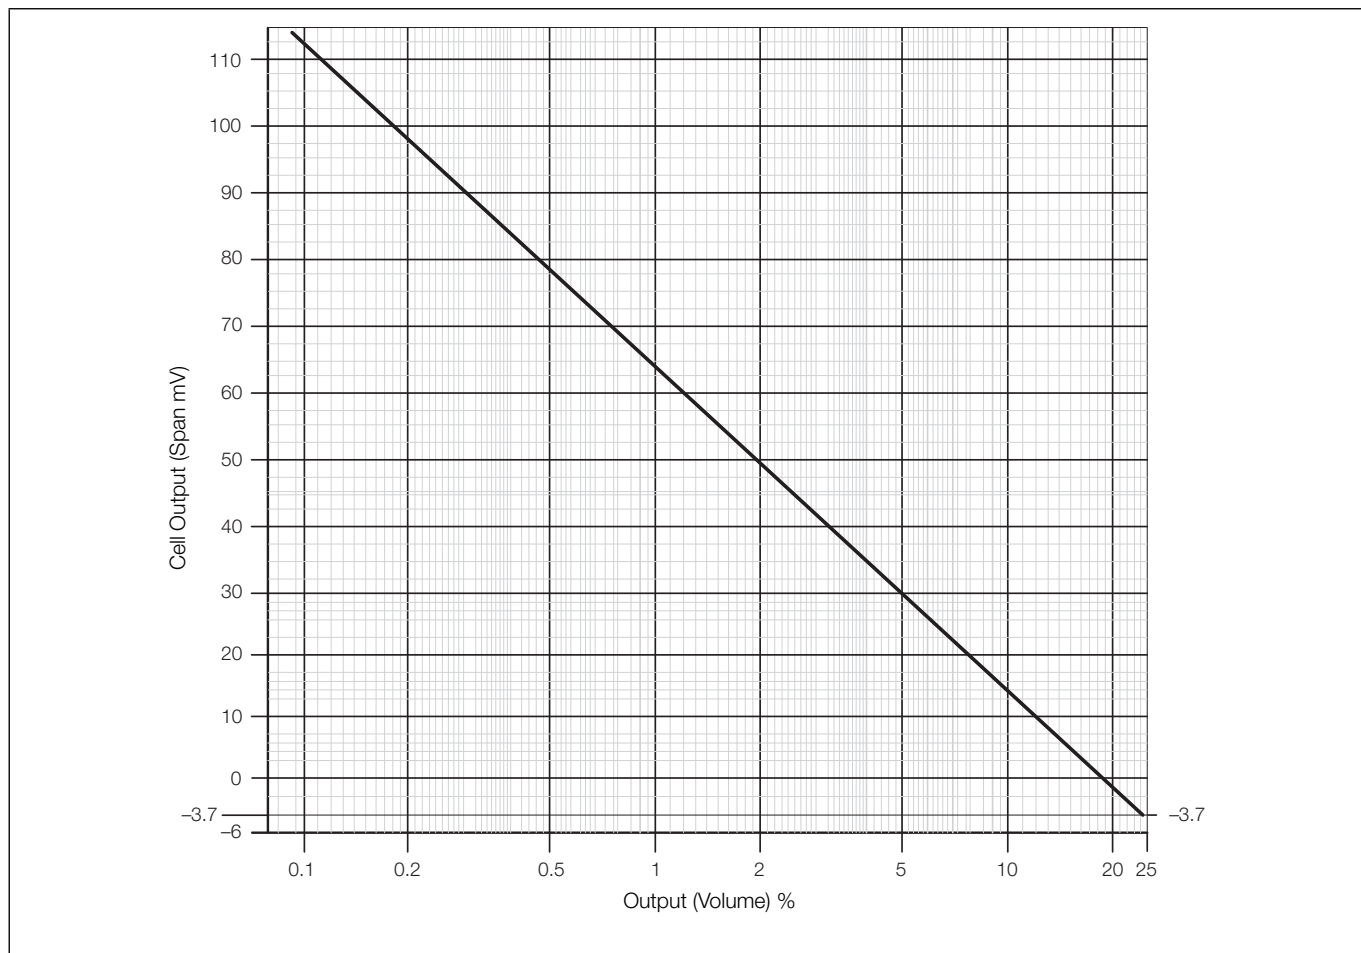

Fig. 4.3 Cell Output v Percentage Oxygen
The check can be performed using 1 test gas (for a functional check) or 2 test gases (for a detailed cell accuracy check). Using 2 test gases provides the most accurate result – both checks refer to the graph in Fig. 4.3:
1. Remove the leads to the cell terminals (B) (Cell+ red; Cell– black) and connect the digital multimeter (0 to 200 mV range) directly across the leads.
5. The measured voltage should correspond to the oxygen volume percentage for the test gas used – refer to Fig. 4.3, page 13.
there is a difference of more than ± 5 mV between the measured cell output voltage and the graph – refer to Fig. 4.3, page 13